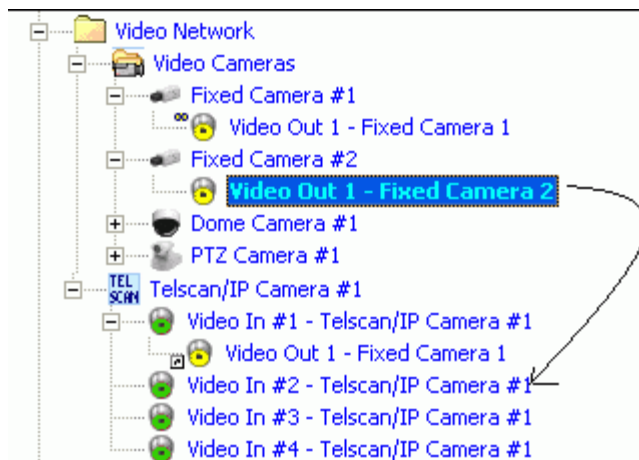

Fig 11 Connecting cameras to TELSCAN
4. Drag and drop the 'video signal' to a TELSCAN video-in node (Fig 11).